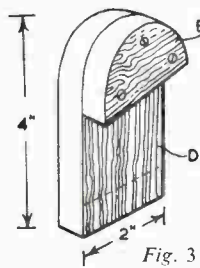

Fig. 3
The notches in the base are for the uprights (D) which are 2ins. wide and 4ins. long. The upright (D) and sloping pieces (E) are shown in Fig. 3. The pieces (E) slope at the same angle as the
The construction of a box divided by partitions is a good example in which both of the principles described are put into practice. To make the box, two pieces of wood are cut—each of sufficient length to make one side and one end. After planing, they are placed together in the vice for marking out (see Fig. 3). Note that, in addition to the overall length, the positions of the grooves and the shoulder lines of the dovetail joints are marked. The lines are then squared round separately. When the box has been assembled and glued, the divisions are placed in position and the lengths marked off from the bottoms of the grooves.